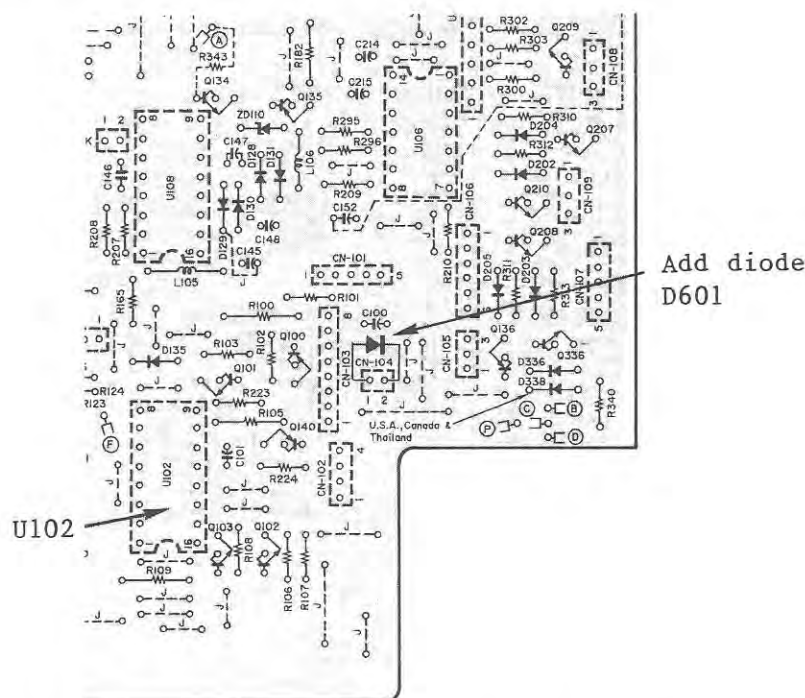

Fig. 2 Main P.C.B. Ass'y (Dip Side View)
- (1) Remove the Bottom Cover Ass'y by loosening two screws.
- (2) Mount D601(1SS176) across both pins of CN-104 from the dip side of the Main P.C.B. Ass'y. Pay attention to its polarity. See Fig. 2.
- (3) Check that the head base solenoid drive IC (U104) on the Main P.C.B. Ass'y and the head base solenoid which is connected to CN-104 operate properly. If not, repair the IC and/or solenoid.
- (4) Install the Bottom Cover Ass'y.
- (5) Check the performance of the machine.